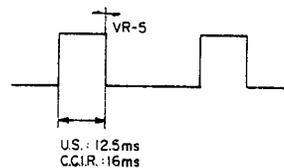

Fig. 7
- (2) Connect Oscilloscope to TP-3 and adjust VR-5 (100 KB) to obtain a waveform as shown in Fig. 7. CAUTION: This is the preliminary adjustment and VR-5 must be readjusted as outlined in Item 5-2 (2) below.